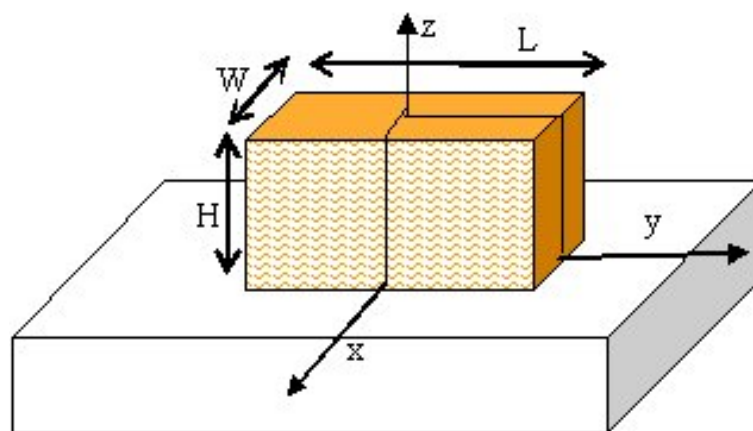

Figure 1: Chip geometry
1. The stand-alone chip, with dimensions $H \times W \times L$ as indicated in Figure 1.